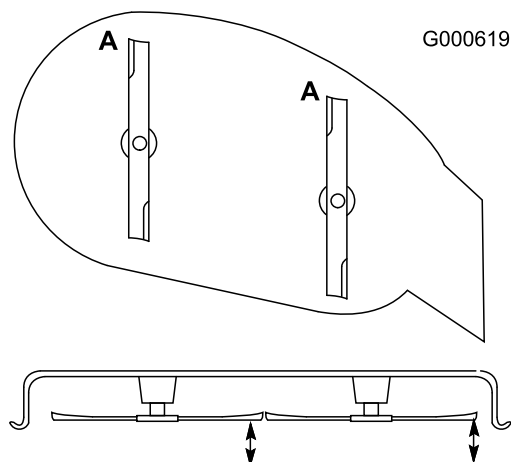

Figure 35
1. Rotate the blades until the ends face forward and backward (Figure 35). Measure from a level surface to the cutting edge, position **A**, of the blades (Figure 35). Note this dimension.